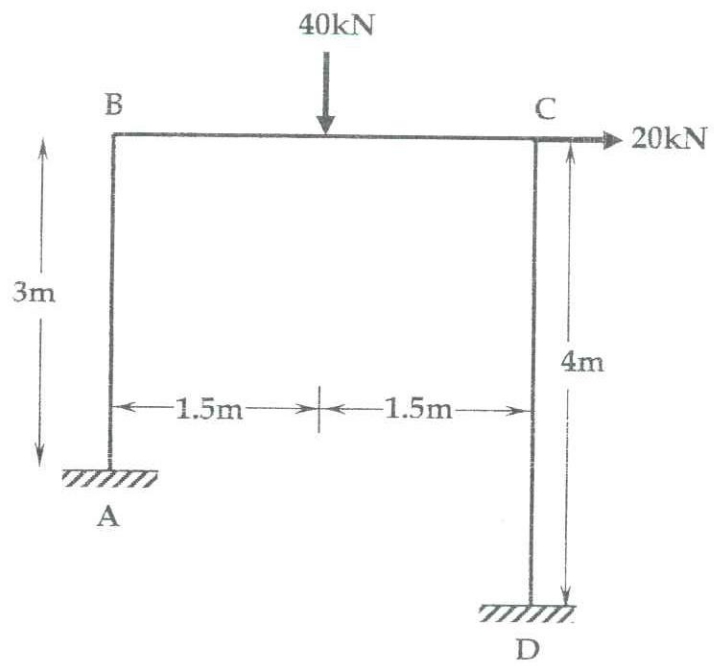

Figure Q5
- c) A portal frame (ABCD) is shown in Figure Q5. Frame supports a vertical load, 40 kN, at the centre of the beam BC. A horizontal load of 20 kN is also applied at the node C. Plastic moment capacity of the beam (BC) and columns (AB, CD) are 100 kNm and 50 kNm respectively. Determine;